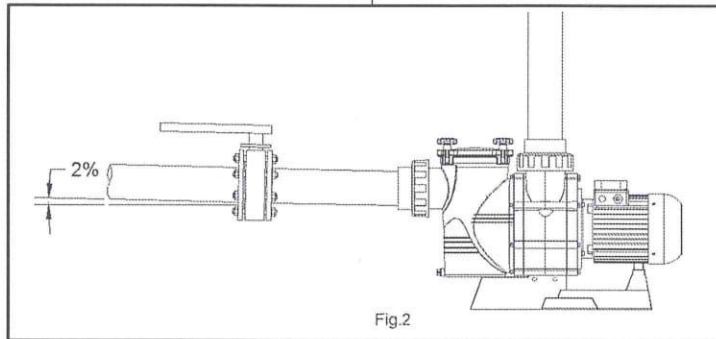

Fig. 2
- The connection of the pipe must be threaded into the mouths of the pump using the right accessories (Fig. 2).
Apart from making assembly more difficult, this pressure could even break them (Fig. 2).
- Suction tube installation is done at a slight angle of 2 % towards the pump, thus avoided siphon formation (Fig.2).